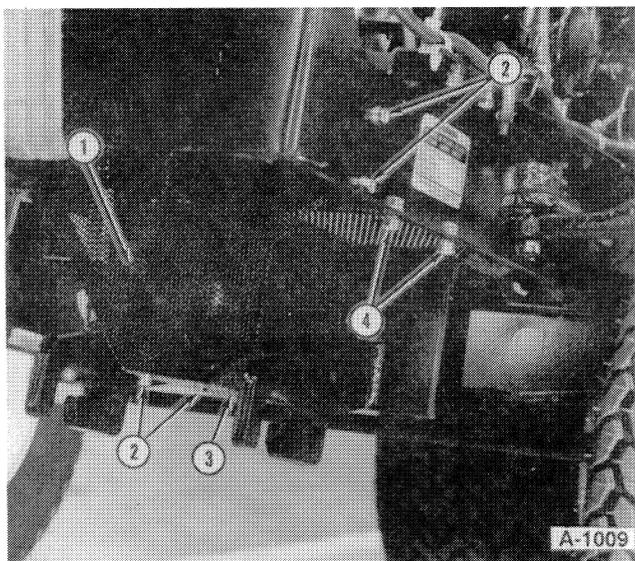

FIGURE 1-15
Reference Figures 1-15 and 1-16.
- Remove the upper and lower shields, 1 and 3, Figure 1-15.